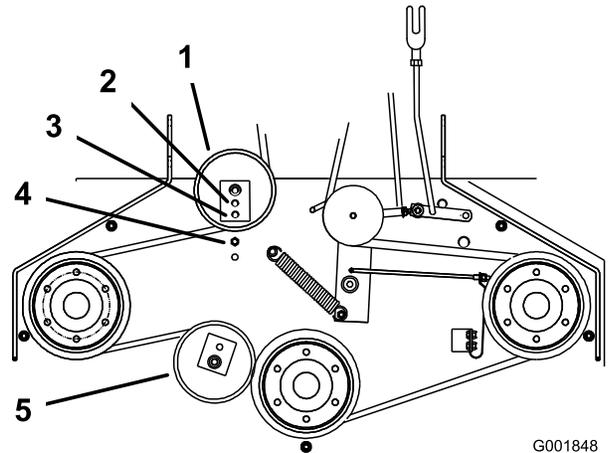

Figure 45
positioned to the middle or front hole (Figure 45). Use the hole that will give the correct adjustment.
- 7. When the idler pulley is moved the belt guide must be moved. Move the belt guide to the front position (Figure 45).